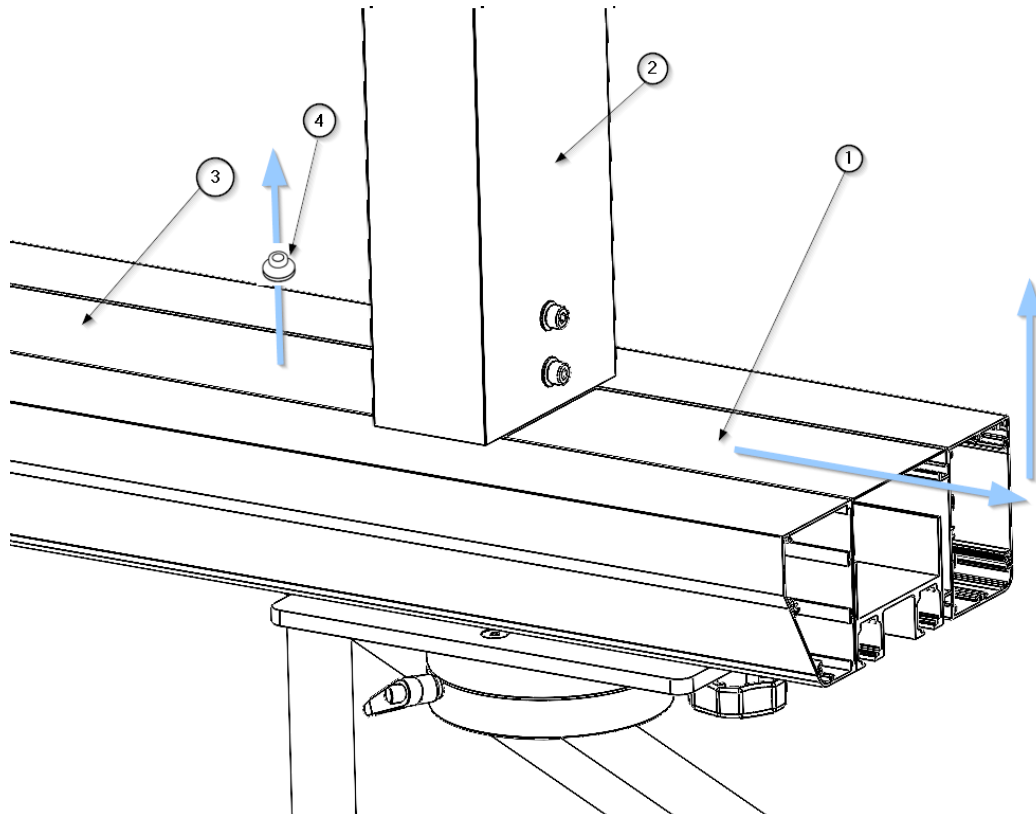

Fig. 3 Removal of main body covers
- Using a suction cup ② remove the top cover ① housing the indirect light diffuser as shown in figure 3. The lighting module ③ for indirect light will be exposed.